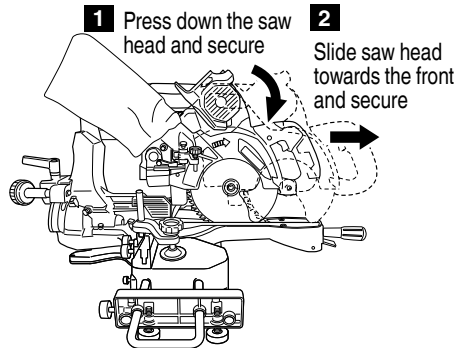

Fig. 54
- (2) Securing the cord (Fig. 54, 55)
- ① Press down the saw head and secure in place with lock pin.
- ② Slide the saw head until it comes into contact with the front and secure the head with the slide securing wing bolt.